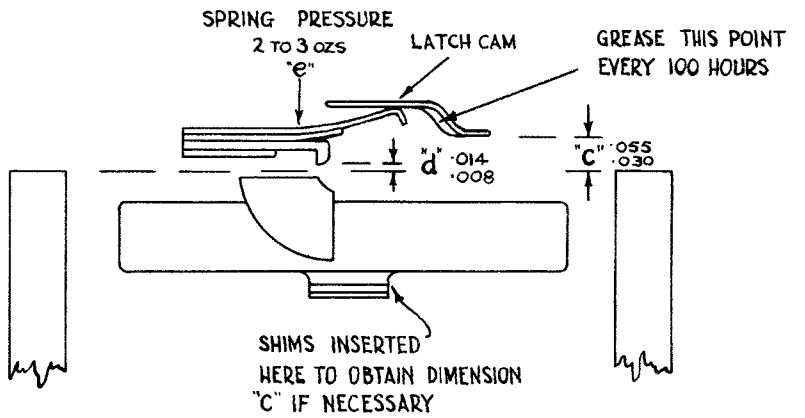

FIG. 1.
2. OBTAIN DIMENSIONS "c" AND "d" (FIG 1) BY INSERTING SHIMS.
3. WITH TYPEHEAD UNLATCHED AND POSITIONED AS IN FIG 1, CORRECT LATCH SPRING PRESSURES BY SLIGHTLY SETTING LATCH SPRING EXTENSION.